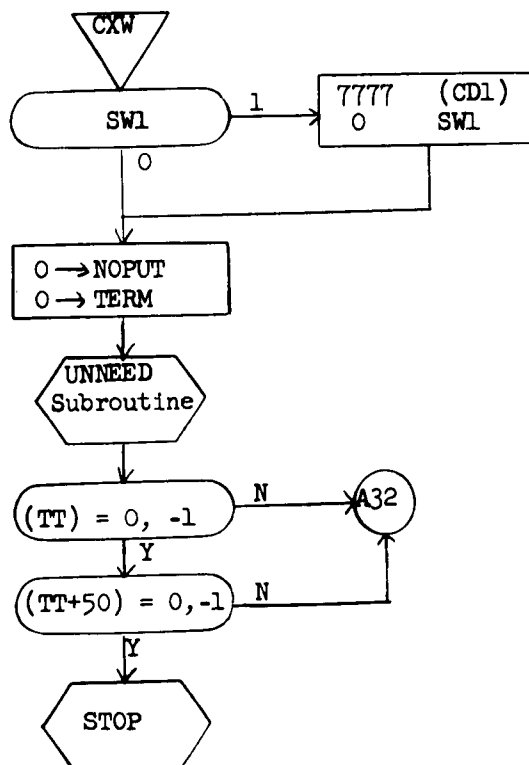

Figure 7.16 CXW
7.2.3.13 CXW WRAPUP Command (Figure 7.16)